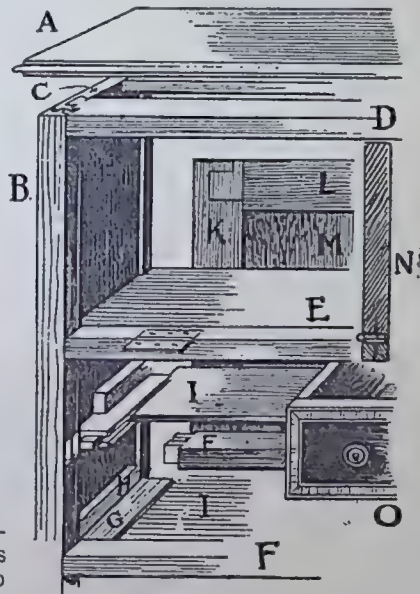

FIG. 3.—DETAIL OF CUPBOARD PART.
The Fall Front may, if preferred, be framed up of two stiles 9 ins. by 1 $\frac{1}{2}$ in. by $\frac{3}{4}$ in., and two rails 13 ins. by 1 $\frac{1}{2}$ in. by $\frac{3}{4}$ in., mortised and tenoned together and grooved to receive a panel of $\frac{1}{2}$ in. or $\frac{5}{8}$ in. stuff, which should fit flush at back and may be finished with a 1 in. bevel in front. A couple of 2 in. brass hinges should be fitted as at E, Fig. 3, so that the flap shuts up as in the section (N), to be held in position by a bullet catch and a drop handle for finger hold. When down the flap will be held horizontally by lengths of brass chain and a couple of flanges screwed one to edge of flap and one to inside leg.